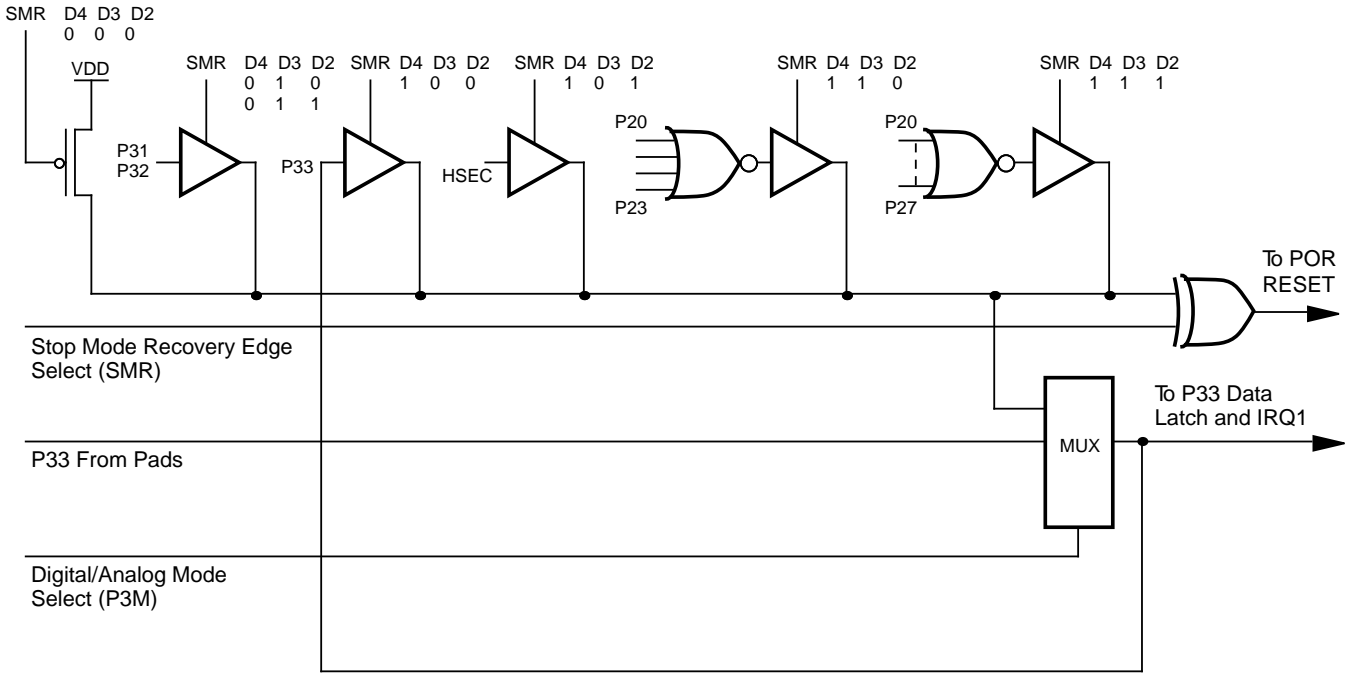

**Figure 26. Stop-Mode Recovery Register (SMR)**
**Stop-Mode Recovery Register (SMR).** This register selects the clock divide value and determines the mode of Stop-Mode Recovery (Figure 26). All bits are Write-Only except bit 7, which is Read-Only. Bit 7 is a flag bit that is hardware set on the condition of STOP recovery and reset by a power-on cycle. Bit 6 controls whether a low level or